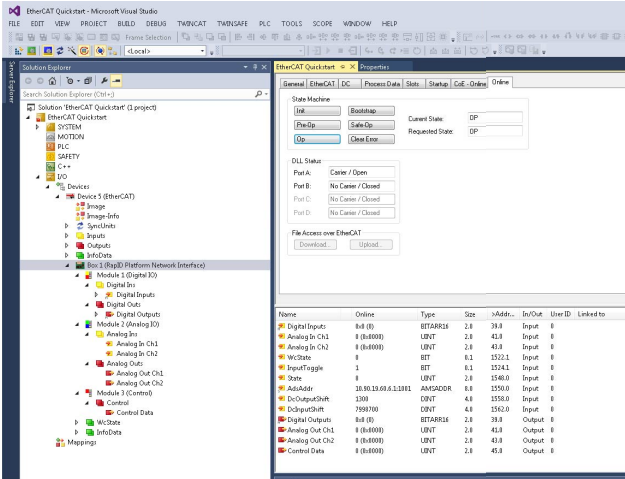

Figure 28. Expanded Modules
1. Expand the **Box 1 (RapID Platform Network Interface)** node and all three modules as shown in Figure 28.